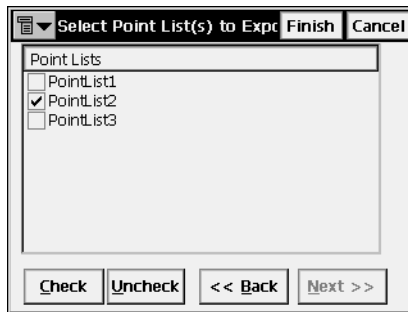

Figure 5-18. Select Point List(s) to Export
- In the *Select Point List(s) to Export* screen select the point lists (if available) to export (Figure 5-18).